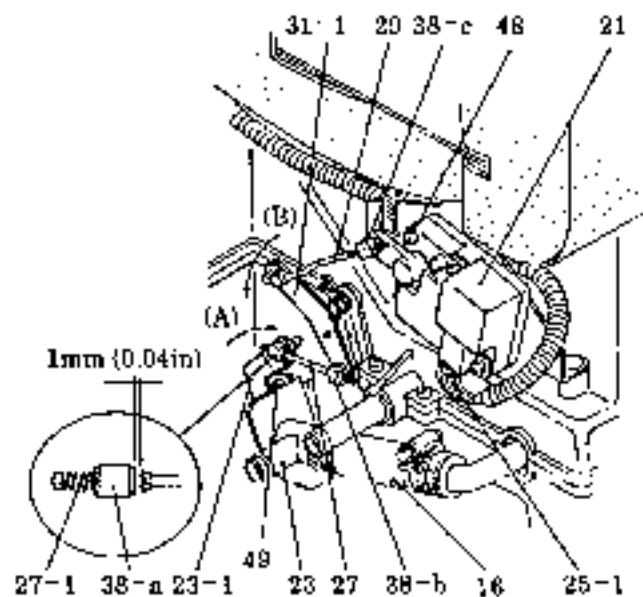

Fig. 17 Replacing water valve
**4.5 REPLACING WATER VALVE (SEE FIG.17.)**
#### 4.6 REPLACING AIR MIX MOTOR ACTUATOR (SEE FIG.17.)